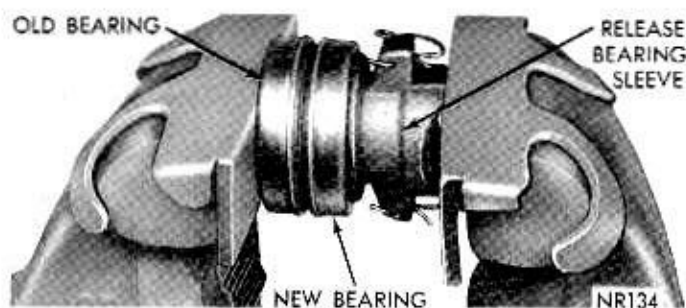

Fig. 10—Replacing Clutch Release Bearing
(1) Position new bearing on sleeve and place old bearing against face of new bearing.
(2) Support parts in a vise and carefully press new bearing on sleeve (Fig. 10). **Make certain bearing is seated on shoulder of bearing sleeve. Rotate bearings as they are pressed together.**